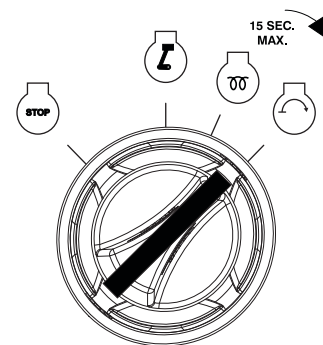

Figure 3-6. Crank Engine
3. See **Figure 3-6**. Turn the key to the right START position and hold until the engine cranks and starts running.